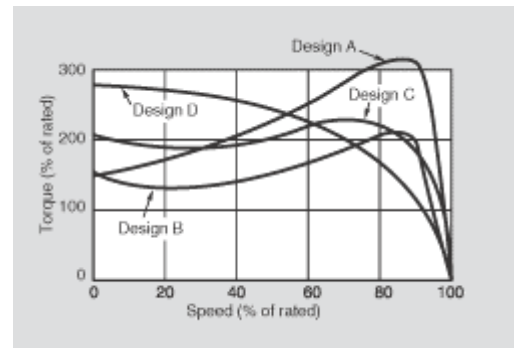

Figure 4 - Typical speed-torque characteristics for Design A, B, C, and D motors.
- Pull up torque is the minimum torque developed during the period of acceleration from rest to the speed that breakdown torque occurs. Figure 4 illustrates typical speedtorque curves for NEMA Design A, B, C, and D motors.